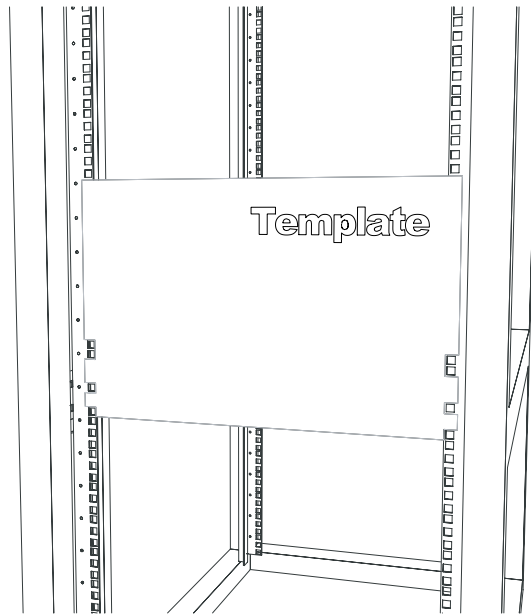

Figure 2-1. Positioning the Enclosure Template
2. Position the Enclosure Template at the front of the enclosure to determine the locations of the screws for the chassis rails (see Figure 2-1).